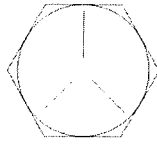

Figure 2. Typical Grade 5 bolt head marking
2. Inspect the head markings of the bolts to determine if they are grade 5 or grade 8 using Figures 2 and 3 below.